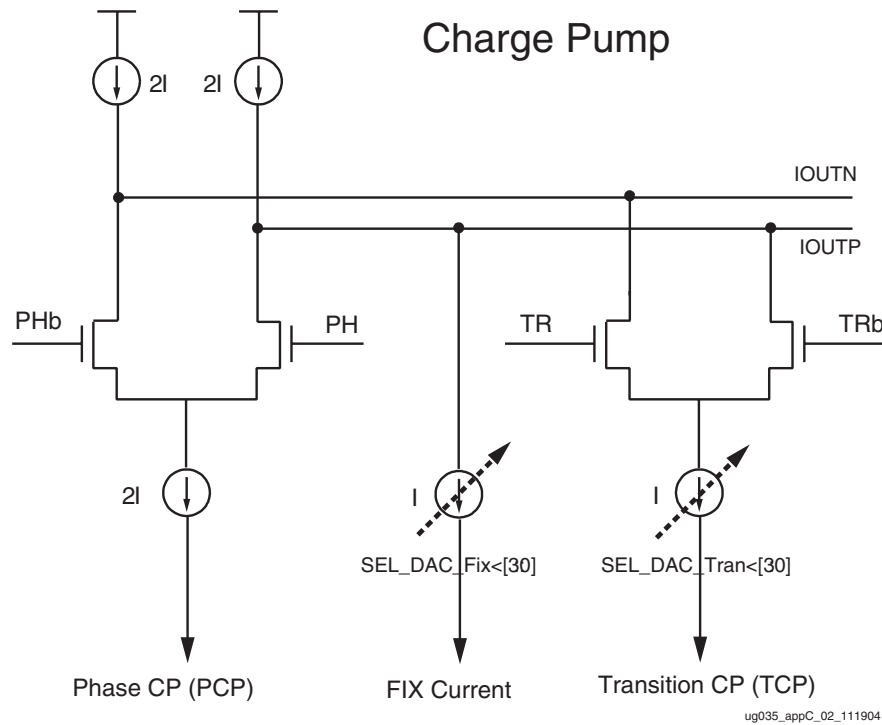

Figure C-2: Fine Loop Charge Pump
This section describes the programmability of the fine loop charge pump (CP) to achieve offset adjustment that is data-density independent. The fine loop CP is made of a Phase CP, Transition CP, and DC current sources as shown in Figure C-2.